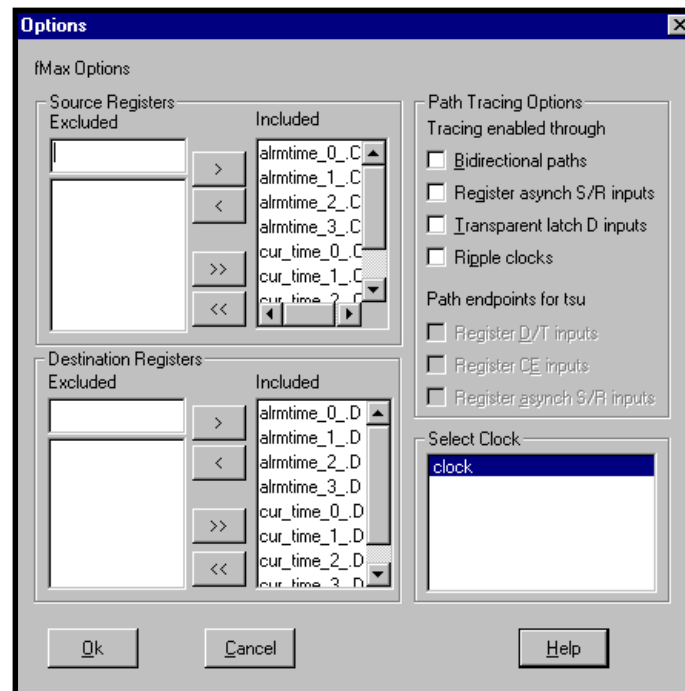

Figure 5-14. fMax Options Dialog Box
2. Click **Options** to open the Options dialog box (Figure 5-14).